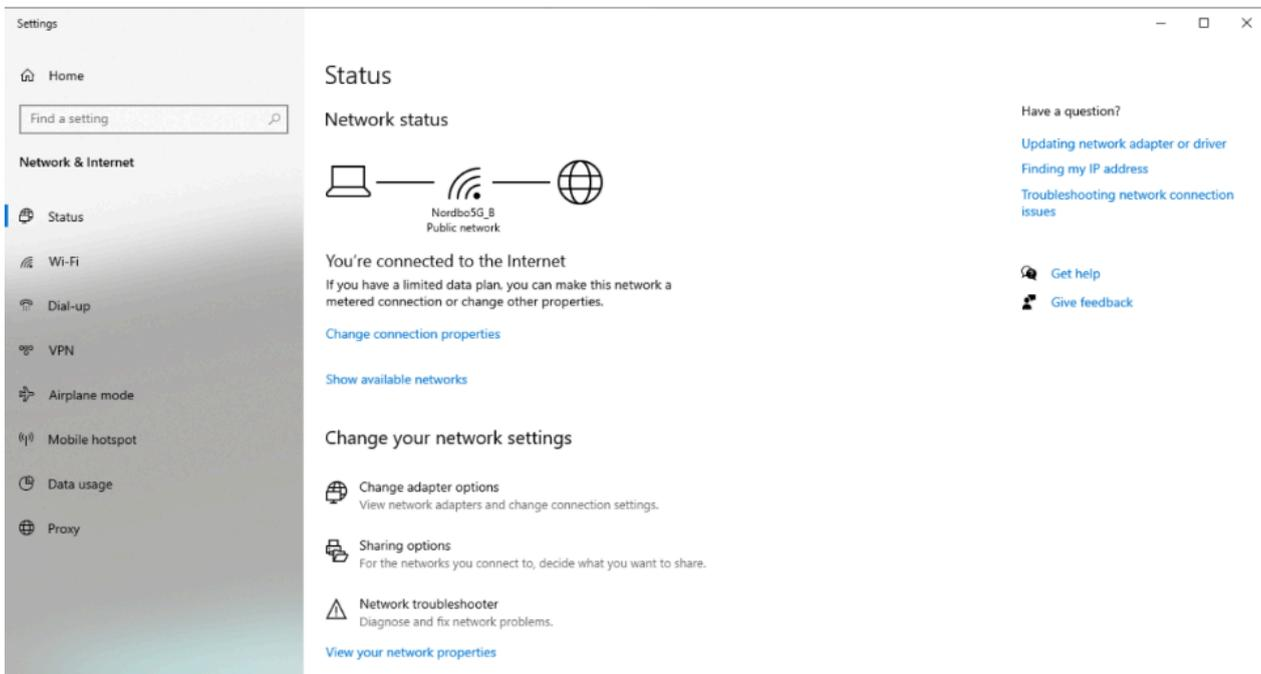

Figure 8
**Step 3.** Click “Change adapter options”. (figure 8)